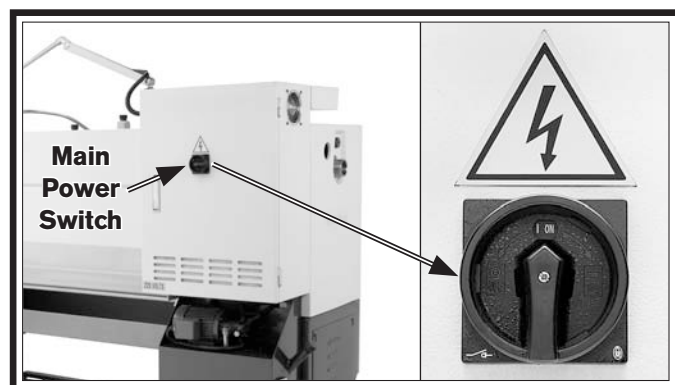

Figure 23. Main power switch in ON position.
12. Connect the lathe to power source, then turn the main power switch (**Figure 23**) to the ON position.